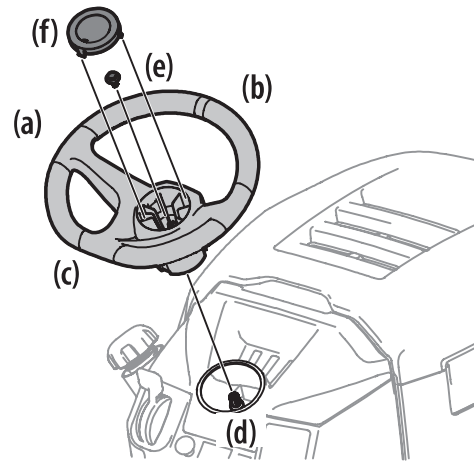

Figure 14
- With the wheels of the tractor pointing straight forward, align the steering wheel (a) by using the center-line (b) on the front of the steering wheel (a) pointing straight ahead and the flat section (c) of the steering wheel (a) facing toward the seat, place the steering wheel (a) over the steering shaft (d). See Figure 14.
- Secure the steering wheel (a) with the hex bolt (e) from under the steering wheel cap (f) and torque to 18-22 ft-lbs (24.4-29.8 N-m). See Figure 14.
**NOTE:** The hex bolt (e) securing the steering wheel (a) has thread locker applied to it, so if it is removed, it is recommended that the hex bolt (e) be replaced or thread lock re-applied. See Figure 14.